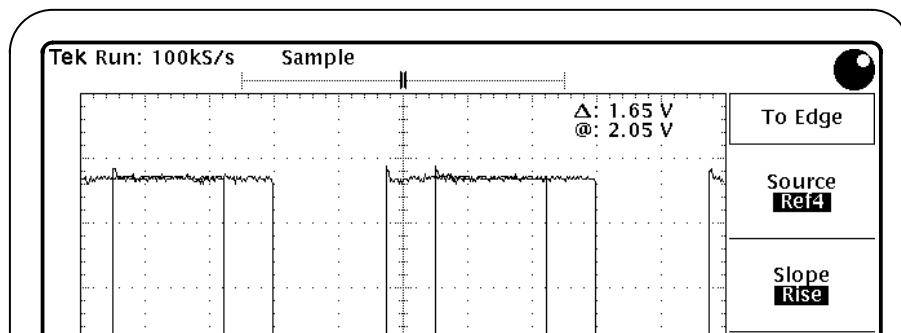

Figure 20: To Edge menu, source
- a. Press Source (side) and select Ref4. See Figure 20.